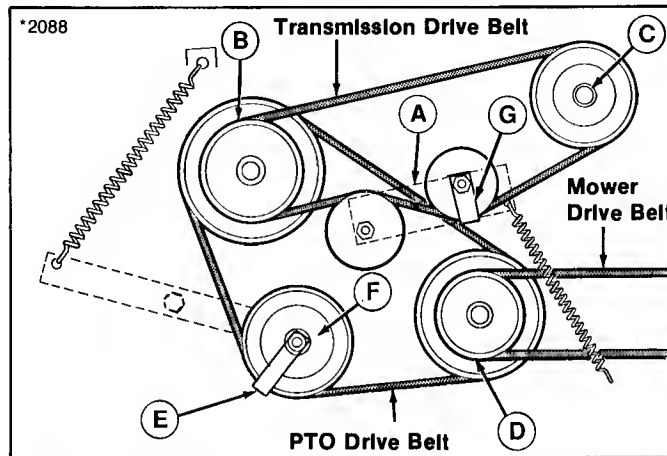
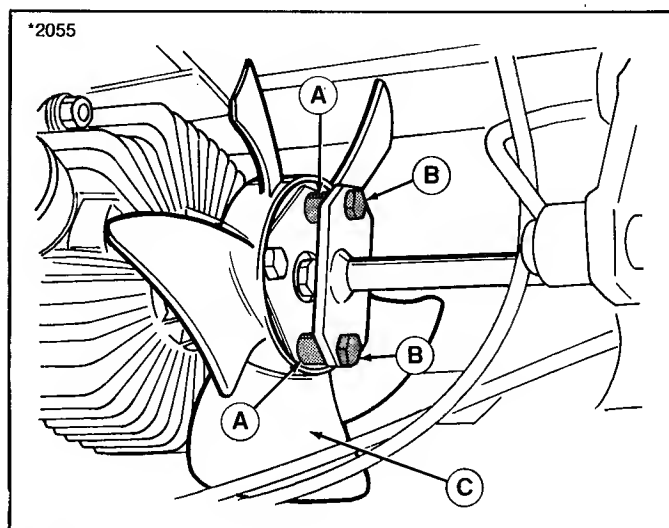

Figure 12.
Figure 13.
1. Push down on rear of idler pulley assembly (A, figure 12) and remove belt from crankshaft pulley (B). Remove belt from idler pulley assembly, loosening belt stop (G) as necessary.
2. Remove belt from right hand hydro pump pulley (C) and place over pump drive shaft (between left hand and right hand hydro pumps).
3. Remove two capscrews and locknuts so that spacer (A, figure 13) can be removed.
7. Install belt on engine crankshaft and idler pulley. Refer to figure 12. Tighten belt stop so that it is 1/16" - 1/8" from belt.
2. Remove mower belt from PTO pulley (D, figure 12).
3. Push down on rear of idler pulley assembly (A) and remove transmission drive belt from crankshaft pulley (B).
4. Loosen PTO idler belt retainer (E) securing PTO belt to idler pulley (F).
6. Install new belt on pulleys. Retighten belt stop as shown in figure 12 so that there is 1/16" to 1/8" between belt stop and idler pulley. It should be positioned so that it tends to push the belt out of the engine pulley (C) when the PTO lever is disengaged. Belt retainer should not pinch or bind the belt when PTO is engaged.